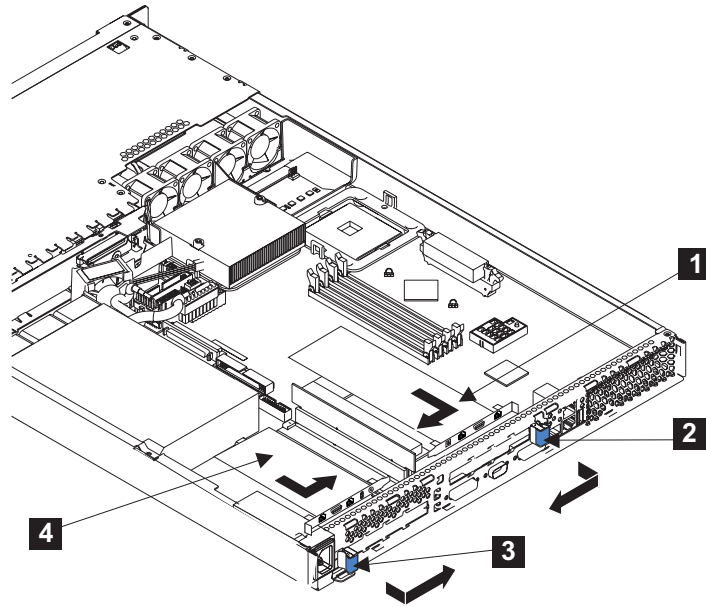

Figure 105. Replacing an adapter
1. Refer to Figure 105 on page 163